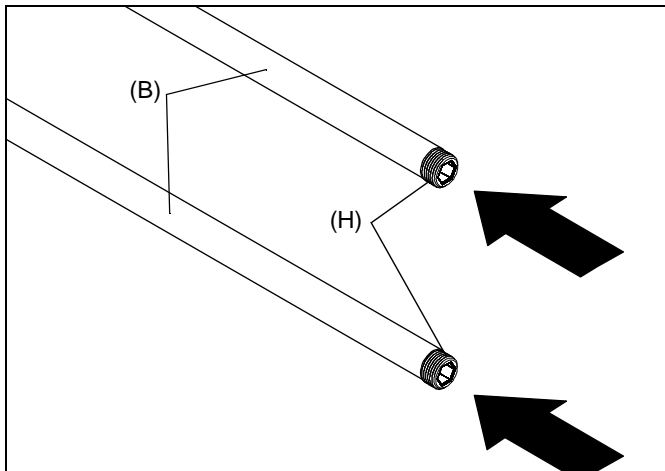

Figure 1
- Using the mount connector allen key (G), connect two rails (B) by turning the rail connector (H) half way into one end of the rail. (See Figure 1)